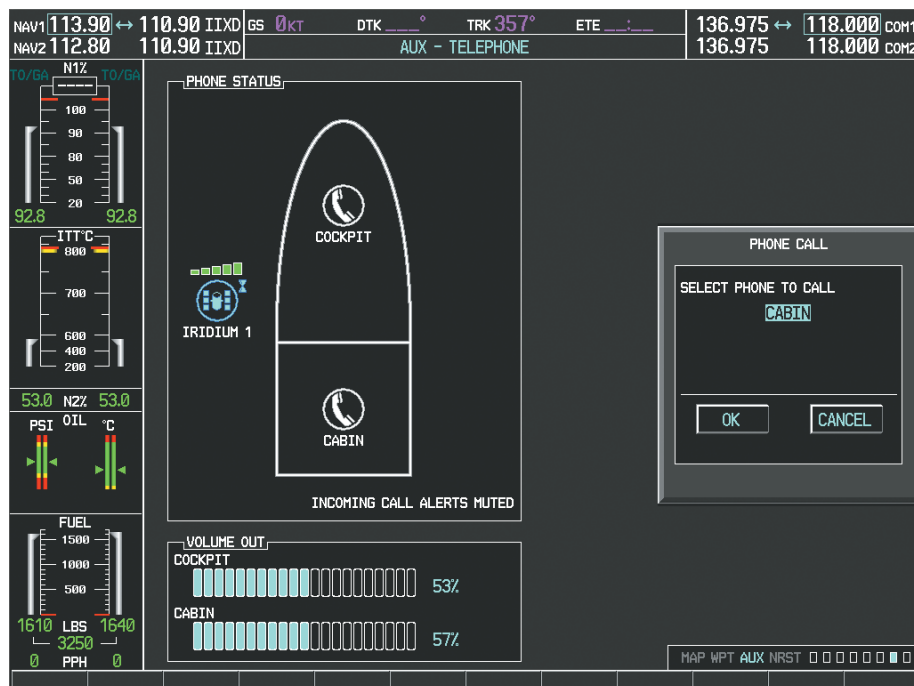

Figure 8-78 Initiating a Cabin Call
- 3) Press the **ENT** Key. The voice and pop-up alert will not be displayed now when an incoming call is received. The mute condition is annunciated on the Telephone Page as shown in Figure 8-78.
- 2) Select the **DIAL** Softkey on the MFD. A display similar to Figure 8-78 will be shown.